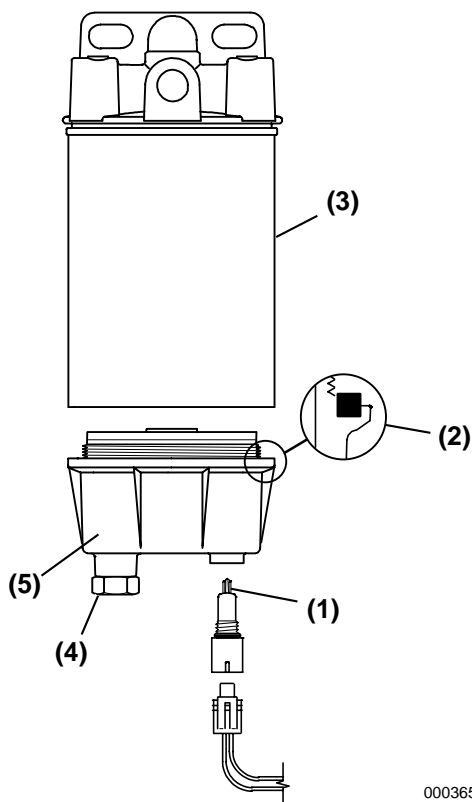

Figure 6
3. Loosen the drain plug (**Figure 6, (4)**) on the bottom of the fuel filter / water separator and drain off any water or sediment.
4. Disconnect water sensor connector (**Figure 6, (1)**).
5. Turn the filter bowl (**Figure 6, (5)**) counterclockwise to remove.
7. Clean the filter bowl. Inspect the water sensor probe (**Figure 6, (1)**) for damage if equipped. Inspect the bowl seal (**Figure 6, (2)**).
8. Lubricate the seal at the top of the new filter element (**Figure 6, (3)**) and install.
9. Lubricate the filter bowl seal (**Figure 6, (2)**) and install the filter bowl (**Figure 6, (5)**). Turn clockwise by hand to tighten.
10. Ensure drain plug (**Figure 6, (4)**) is securely tightened.
11. Connect water sensor connector (**Figure 6, (1)**) if equipped.